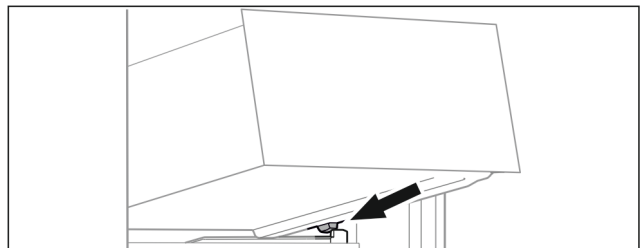

Fig. 30
- ▶ Place drawer at an angle behind the stoppers on the moulded rib. (see Fig. 30)